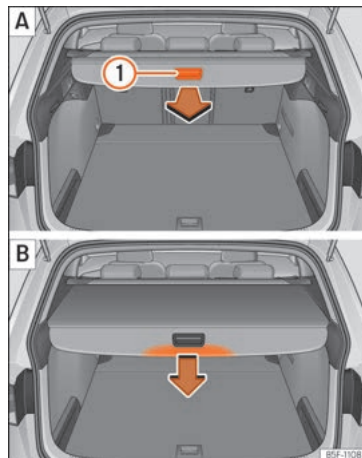

Fig. 173 In the luggage compartment: extend and retract the shelf.
- Pull evenly on the rear shelf using its handle »» Fig. 173 ① [A] in a backwards direction until it audibly clicks into place.
- Press on the handle of the rear shelf in the direction of the arrow to release it »» Fig. 173 [B].